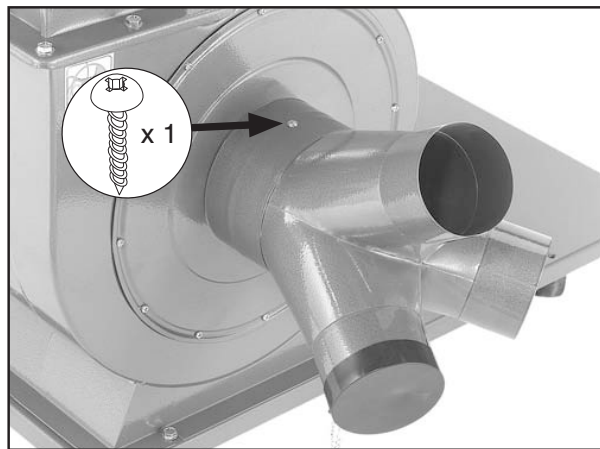

Figure 25. Inlet connector installed.
14. Insert the inlet connector over the impeller intake hole, then secure it in place with the #10 x $\frac{3}{8}$ " tap screw, as shown in **Figure 25**.